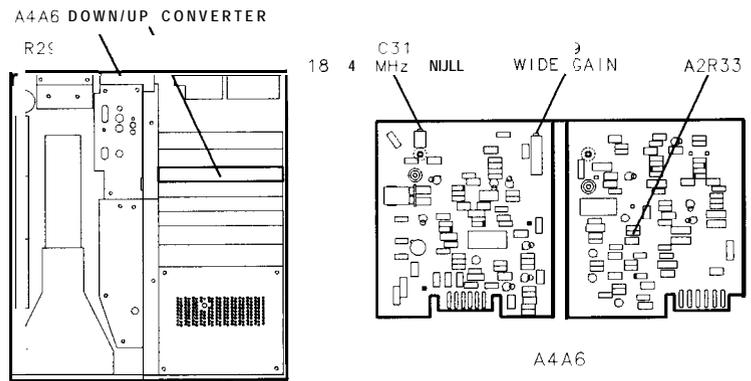

Figure 3-51. Location of Down/Up Converter Adjustments
6. Adjust A4A6A1R29 WIDE GAIN to align markers on CRT display. MKR A level should indicate 1.00 X. See Figure 3-51 for location of adjustment.
5. Adjust A4A6A1C31 18.4 MHz NULL to null the 18.4 MHz Local Oscillator signal and all displayed harmonics. See Figure 3-51 for location of adjustment.